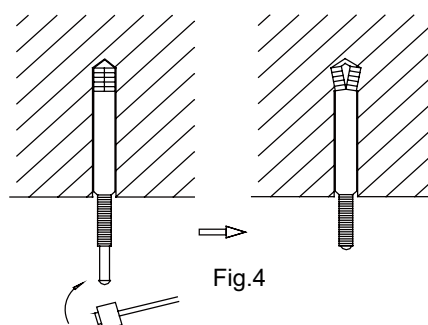
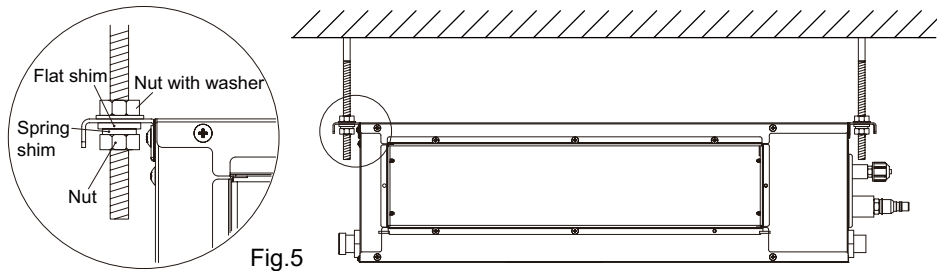

Fig.4
Fig.5
- (2) Insert the anchor bolts into the drilled holes, and drive the pins completely into the anchorbolts with a hammer. (Fig. 4)
- (3) Install the hanger to the unit.
- (4) Pass the unit hangers over the bolts installed to the ceiling and install the unit with the special nut. (Fig.5)